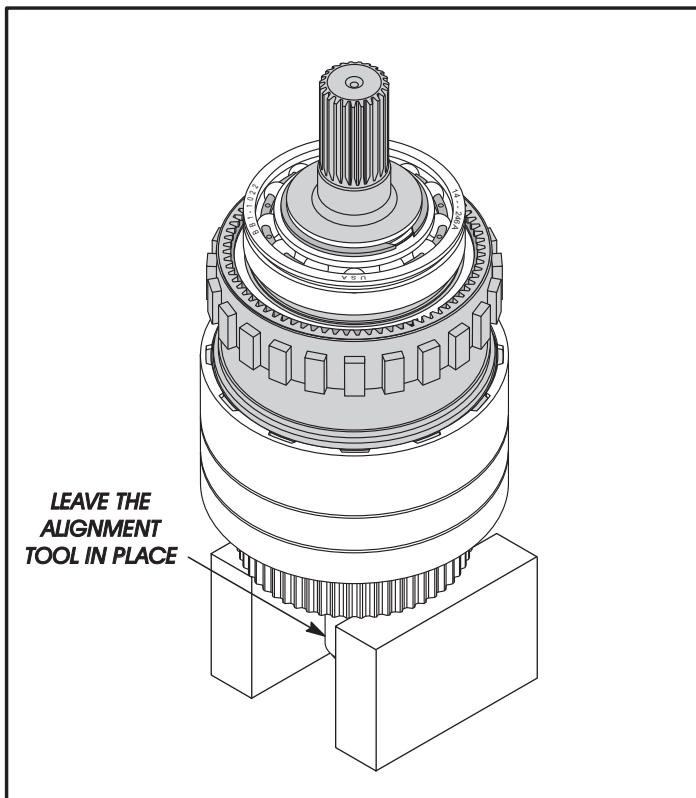

Figure 188
38. Place the geartrain on the same blocks used for disassembly, as shown in Figure 188, leaving the spline alignment tool in place.